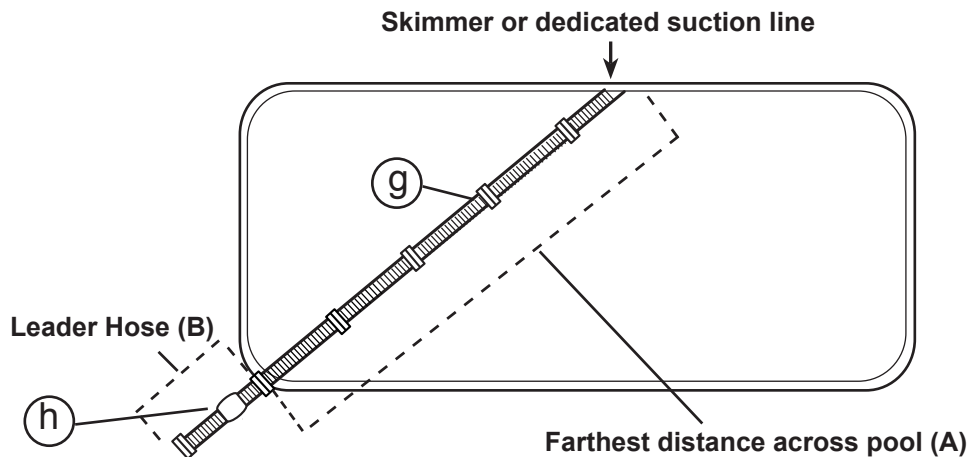

Figure 5
1. Measure enough hose to reach the farthest point of the pool from the skimmer or dedicated suction line. Remove any additional hose sections, as necessary. See (A) in Figure 5, below.
2. Next attach the leader hose at to the end where the cleaner head will be connected. See (B) in Figure 5, below. The extra length allows the cleaner to reach the far point in the pool if a loop forms while in operation.